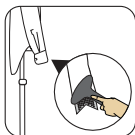

fig.28
2. Insert the mini board into the cuff of the garment and steam it vertically. (fig.28)